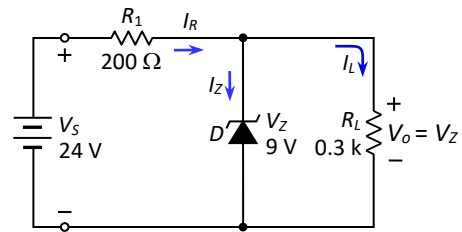

Fig.3-116: Zener diode circuit for Exercise no. 31
31. Repeat the problem no. 30 for the Zener diode circuit given in Fig.3-116.